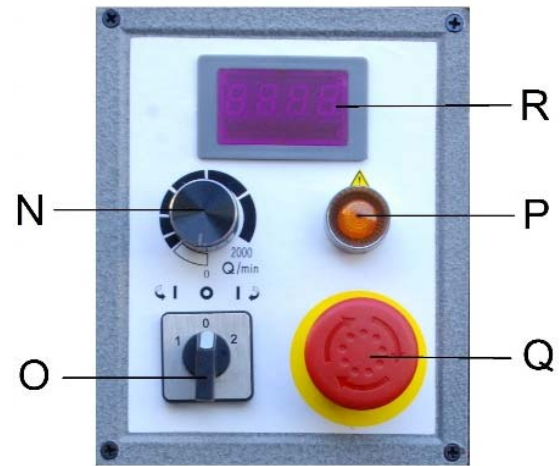

Figure 9-1: Operating Controls
Refer to Figure 9-1:
- Make sure the Rev / Power-OFF/ Fwd switch (O, Figure 9-1) is in OFF position before you connect the machine to the power supply.
- Digital spindle speed display (R, Figure 9-1) is illuminated when connected.
- Use the Rev / Power-OFF/ Fwd switch (O, Figure 9-1) to select the spindle rotating direction and to energize the electrics.
- Start the machine with the Speed control knob (N, Figure 9-1).
- The emergency stop button (Q, Figure 9-1) stops all machine functions.